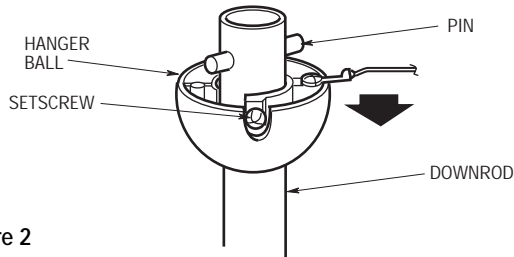

Figure 2
1. Remove the hanger ball by loosening the setscrew in the hanger ball until the ball falls freely down the downrod (Figure 2). Remove the pin from the downrod, then remove the hanger ball. Retain the pin and hanger ball for reinstallation in Step 5.